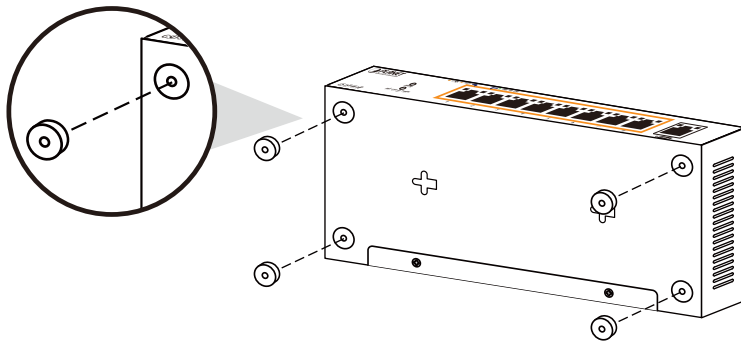

Figure 3-2: PoE Ethernet Switch Magnets Installation
- Step 2:** Use 4 screws from package to secure the magnets to the PoE Ethernet Switch, as shown in Figure 3-2.